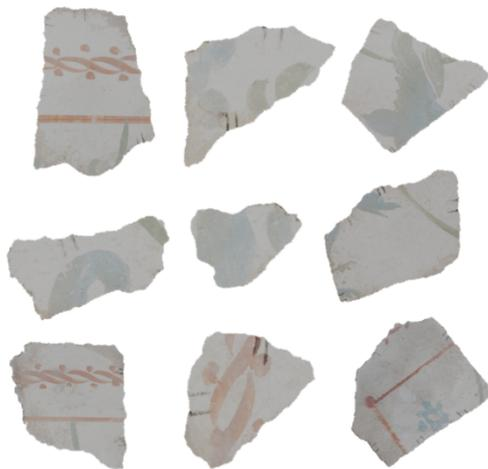

Figure 1: Fragments of a frescoes
**Case 1 - Fragments of objects with one visible face (e.g., frescoes):** Take clear, high-resolution (i.e., at least 1920x1080 pixels) pictures of each fragment's front face. Ensure the camera is positioned directly in front of the object to avoid distortion. Use adequate lighting to avoid shadows or glare. A flash can be used if it *does not* create reflective spots. Place the fragment against a neutral, non-distracting background (e.g., white or black) to enhance contrast. Save the images as JPEG or PNG (Figure 1).